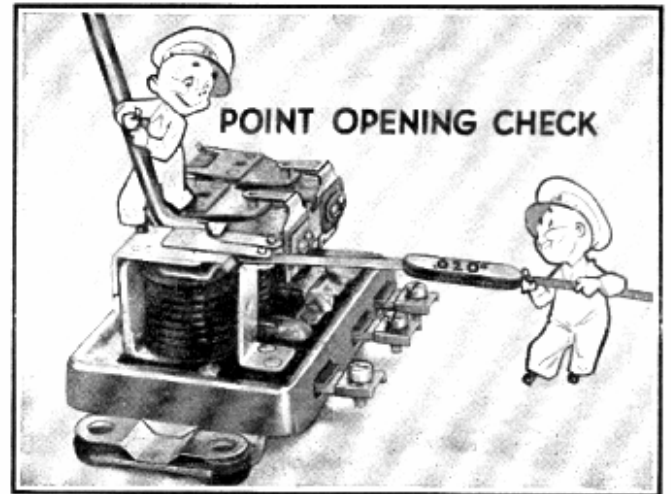

Fig. 24—Adjusting Point Opening
2. **POINT OPENING**—The opening between the points should be .020". Bend the upper armature stop up to increase the point opening and down to decrease the point opening. (See Fig. 24.)